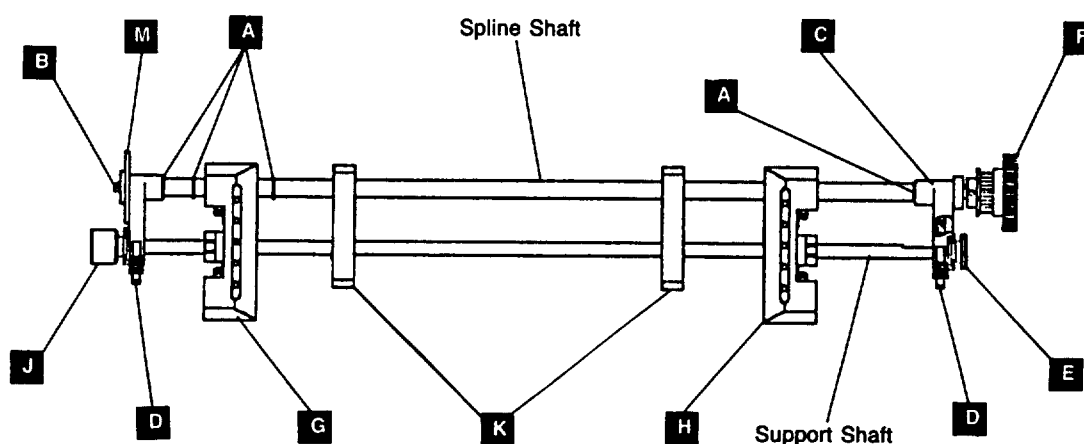

Figure 21. Tractor
See Figure 21.
6. Press both latch levers **D** up and pivot the tractor assembly toward the front of the printer (Figure 21).